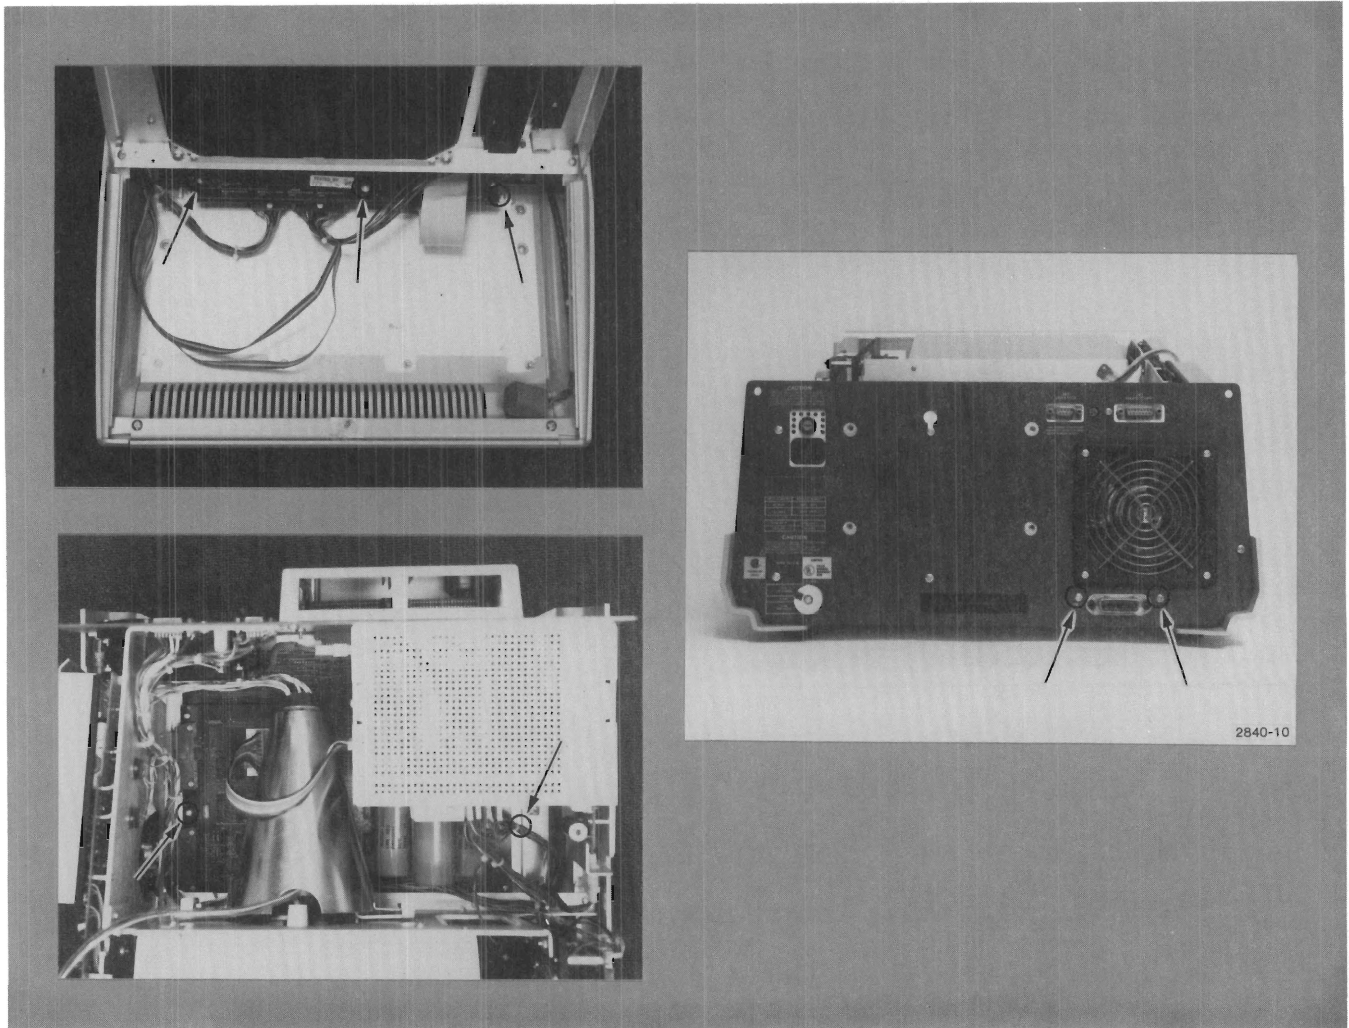

Figure 3-19. ALU/Memory Board Removal.
3. Remove the six Phillips screws that secure the board set to the chassis (Figure 3-19).